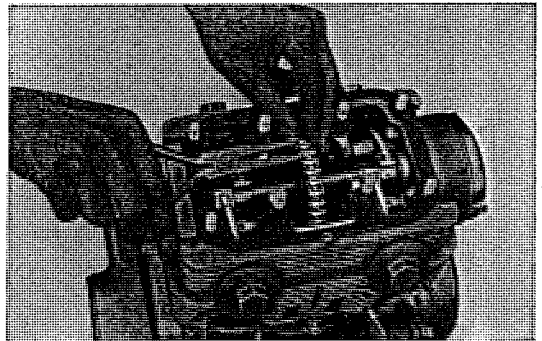

Fig. 3.14 Removing cam chain
3. By turning the A.C. generator rotor, locate the cam chain joint and remove it near top dead center. (Refer to Fig. 3.14)